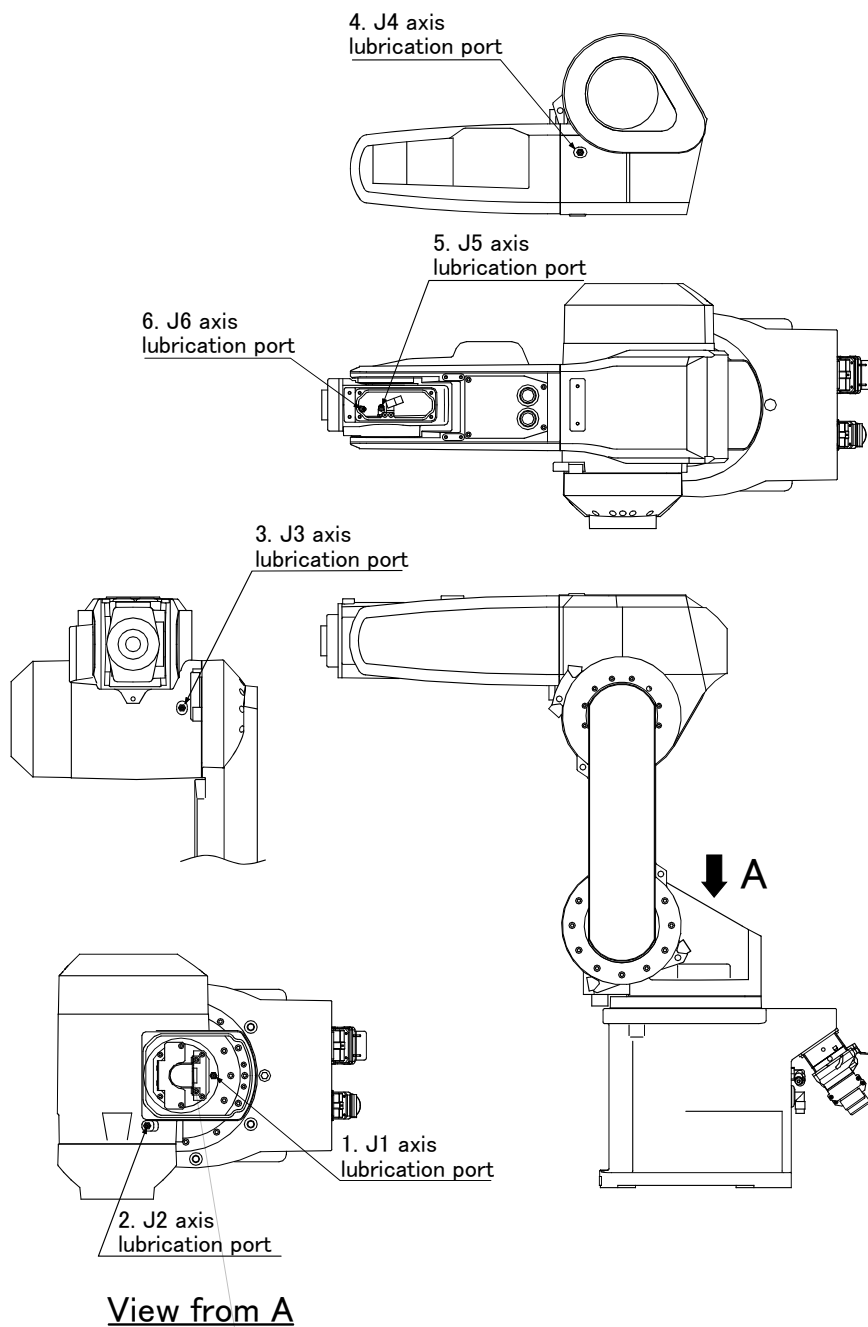

Fig.5-6 : Lubrication positions
- The numbers in the Table 5-5 correspond to the supply positions in Fig. 5-6.
- 1) Set the robot to the posture shown in Fig. 5-6.